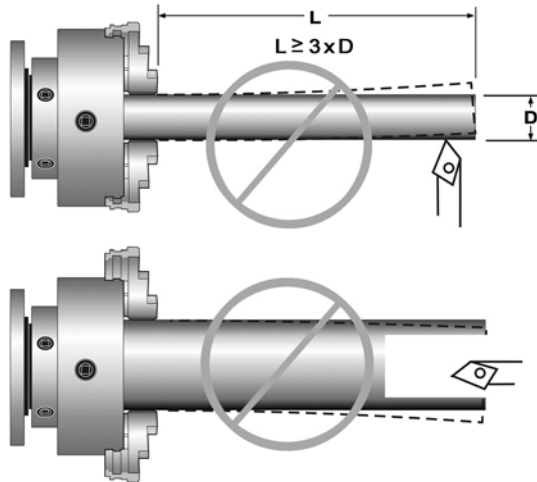

Figure 30 – Improper setups
- Avoid long workpiece extensions, as parts may bend or fly off (see figure 30). Use rests or the tailstock for support.